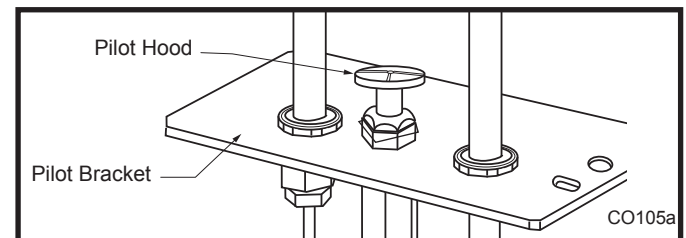

Fig. 81 Remove pilot hood.
1. Remove pilot hood by lifting up. (Fig. 81)